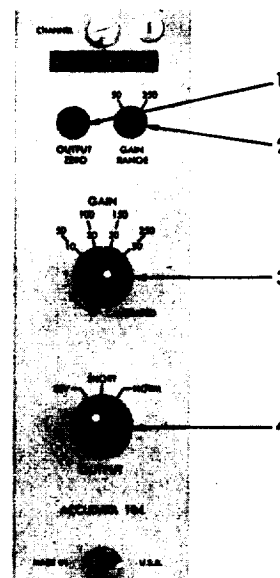

Figure 3-1. Front Panel Controls
A. **FRONT PANEL CONTROLS.** The following controls are located on the front panel of the Accudata 104 D-C Amplifier and perform the functions described. Paragraph numbers are the same as the index numbers to the controls on Figure 3-1.